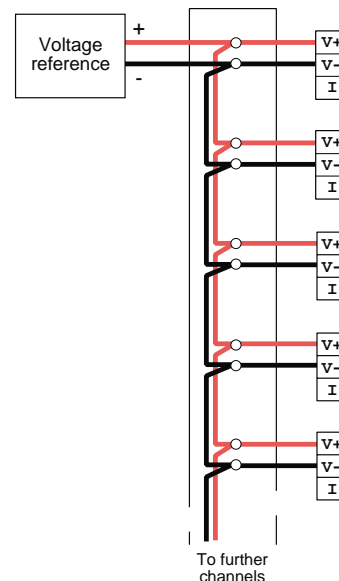

Figure 2.3.1
1. Connect all the channels to be checked to the voltage reference as indicated in figure 2.3.1. Ensure that the recorder rear terminal cover is in place after wiring.